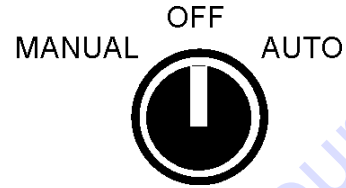

Figure 14. Operation Switch (OFF Position)
1. Place the 3-position operation switch on the control box to the OFF position (Figure 14).